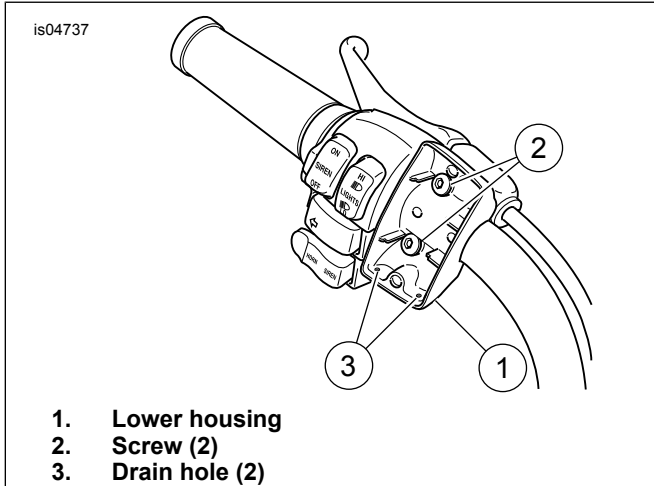

Figure 2. Install Left Switch Housing
- See Figure 2. Install the lower housing (1), with the drain holes (3) on the bottom, with two screws (2) and flat washers from the kit. Position the lever as it was earlier. Tighten the screws to 8–9 N·m (60–80 **in-lbs**) with a 5/32 inch hex key.